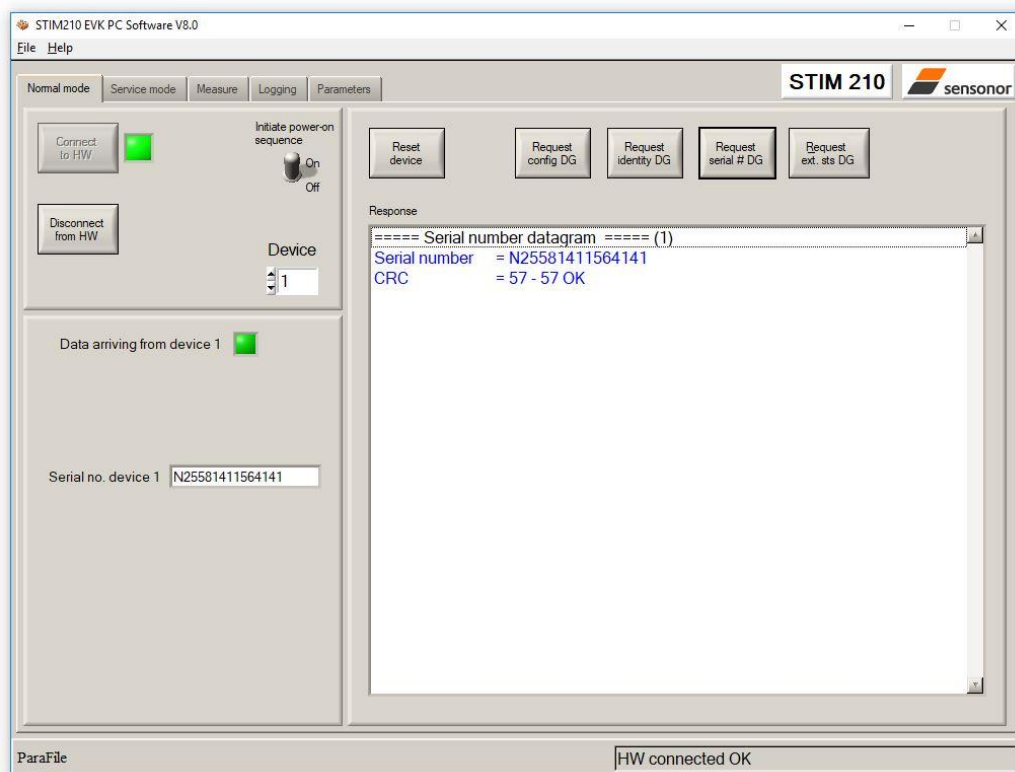

Figure 11: Result of sending 'Request serial# DG' to the STIM210
- A green LED (Data arriving from device n) indicates that data is received from the gyro module(s). Verify the communication to module by clicking on the 'Request serial# DG' button. An example of such a result is shown in Figure 11. The system is now ready for use